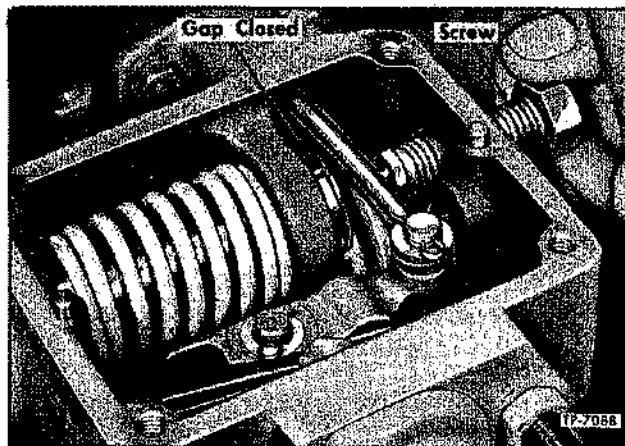

Figure 43—Closing Modulator Gap With Special Screw
- C. Temporarily install cap screw ($\frac{1}{2}$ -13 x 2") into front of control housing and thread screw inward until gap between low speed cap (61) and high speed spring plunger (39) just closes (Fig. 43) being careful that high speed spring plunger is not moved.